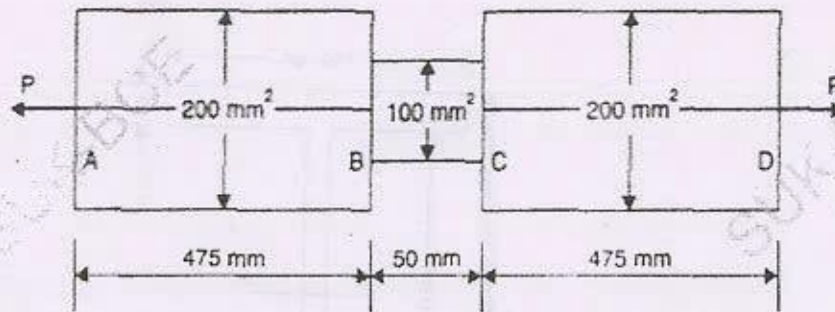

Fig. 5
- b) The maximum stress produced by pull in bar of length 1 m is 150 N/mm^2 . The area of cross sections and lengths are as shown in fig.5. Calculate the strain energy stored in a bar if $E=2 \times 10^5 \text{ N/mm}^2$ [8]